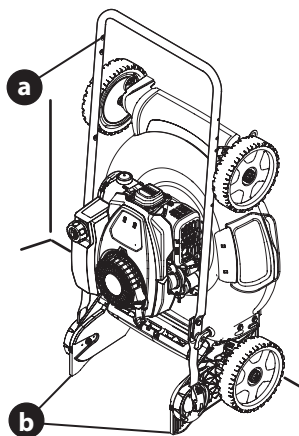

Figure 21
6. Lifting from the handle (a), tilt the mower up onto the rear wheels and back of the handle bracket (b) (Figure 21).
2. To unfold the handle, unlock the two handle release levers (inset, Figure 21) and perform STEPS 5-8 IN ASSEMBLY, Vertical Storage Handle on page 8.